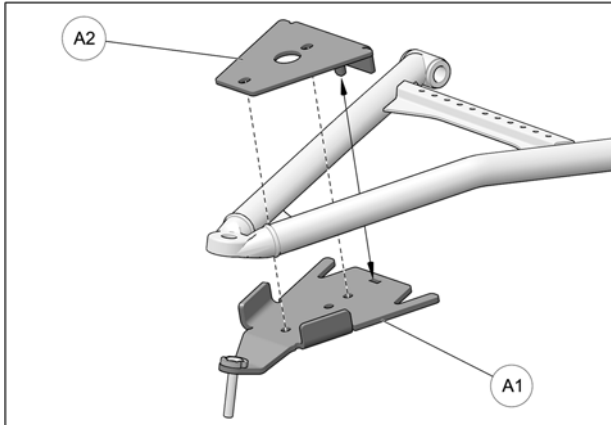

Fig. 26
9. Position anchor bracket (A1) under front lower suspension arm, as shown in the figure below. Position bracket cover (A2) over suspension arm and align holes in cover and bracket. See Fig. 26